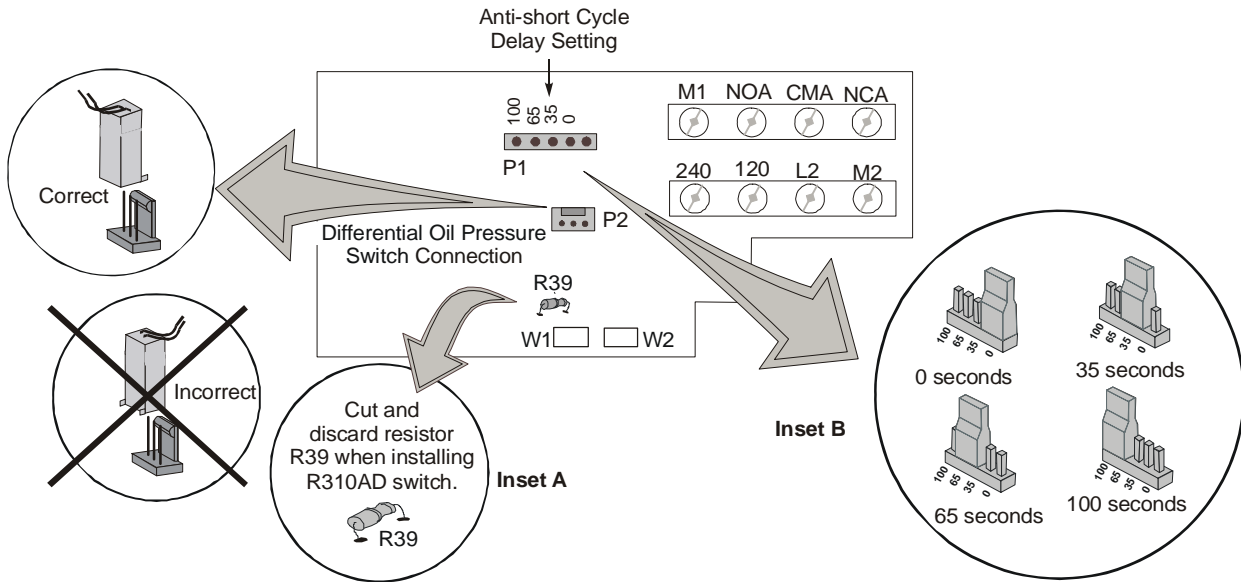

Figure 13: Terminal Designations and Jumper Positions for Anti-short Cycle Delay
Install the R310AD switch after the main contactor on one of the compressor power leads, and wire to terminals W1 and W2 on the P545 control. In addition, remove resistor R39 by cutting the leads to the circuit board. See Figure 13.
2. Connect the wiring harness to the P545 control at P2. See Figure 13 for the location and orientation of the differential oil pressure switch connection.
The anti-short cycle delay timer is factory-set to 100 seconds. For a different delay, move the jumper at P1 to the desired position. (See Figure 13, Inset B.)
**Note:** On systems using the R310AD switch, remove relay connections to control terminals W1 and W2, and connect a jumper between those two terminals. (See Figure 13.)
5. De-energize the supply voltage. Reconnect the compressor leads to the contactor, or reset the disconnect. If an R310AD switch is used, reconnect the compressor leads to the contactor. See Figure 13.